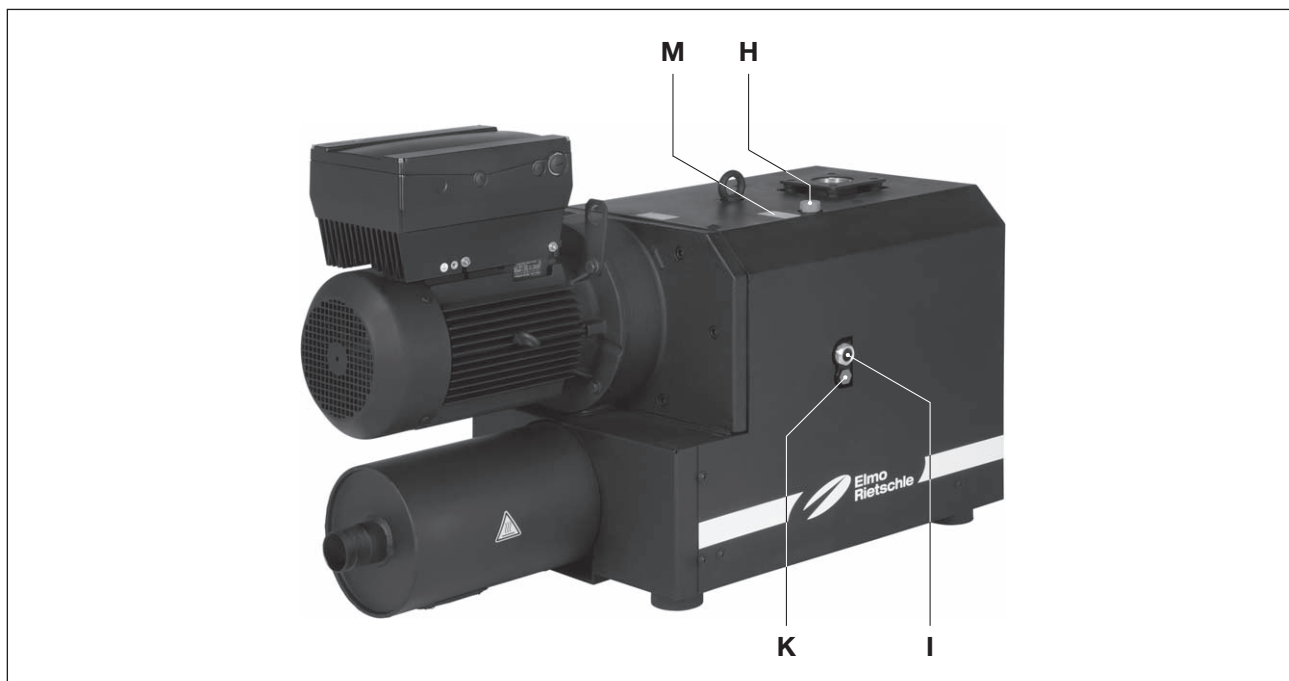

Fig. 6 Changing the oil
The **oil level** in the sight glasses (Fig. 6/I) must be checked.
The oil level in the sight glasses (Fig. 6/I) must be checked every month.
*We recommend the following oil brand: GEAR-LUBE 150 or equivalent oils by other manufacturers (also see oil recommendation plate (Fig. 6/M)).*